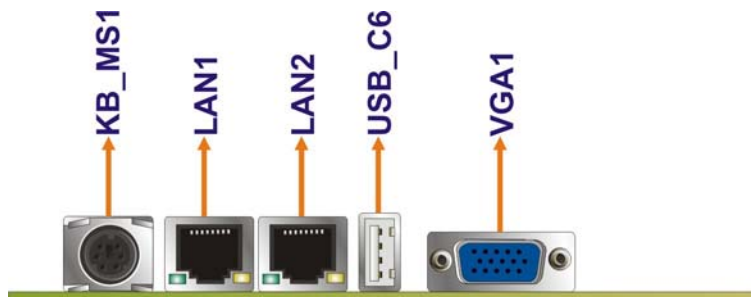

Figure 4-22: External Peripheral Interface Connector Panel
Figure 4-22 shows the WSB-9452 CPU card rear panel. The peripheral connectors on the back panel can be connected to devices externally when the CPU card is installed in a chassis. The peripheral connectors on the rear panel are:
- CN Location:** See **Figure 4-22** (labeled number 2)
- CN Location:** See **Figure 4-22** (labeled number 1)
- CN Location:** See Figure 4-22 (labeled number 3)
CN Location: See **Figure 4-22** (labeled number 4)